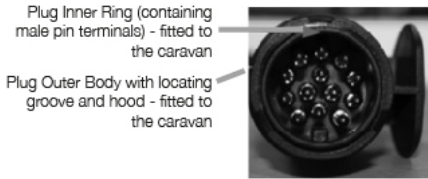

Fig.1 - 13 Pin Plug
- Either pass the cable through the attachment point and clip it back on itself (Fig 1) or
All Swift caravans are supplied with a 13 pin plug to connect to the tow car. The 13 pin plug has an inner ring assembly that is independent from the outer body. Fig 1